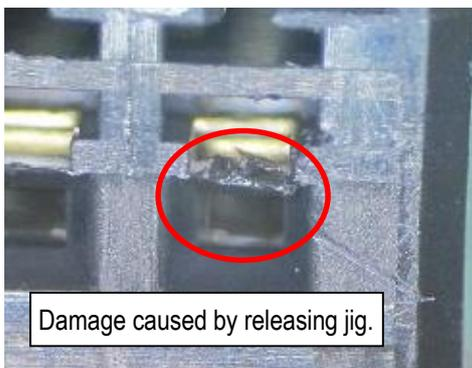

Fig35. Damage caused by releasing jig
- ① Do not pry with the releasing jig or female terminals during operation. Check for any deformation or damage on the female terminals and the housing after releasing the female terminals. (see Fig.35)